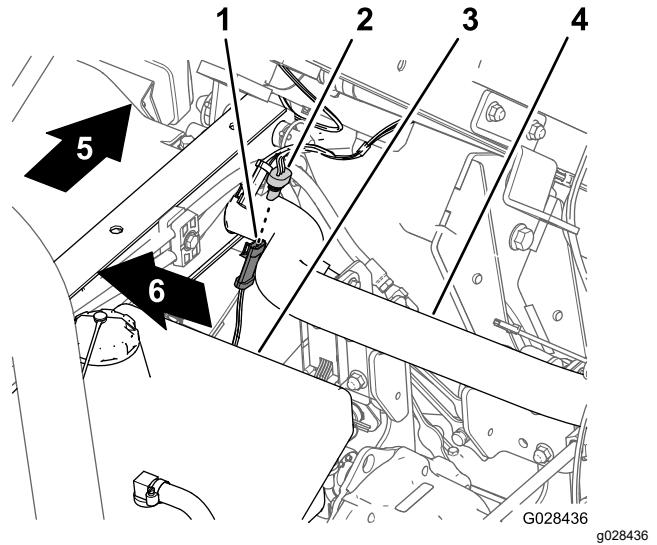

Figure 17
1. At the wire harness for the sprayer, locate the 3-socket connector for the speed sensor circuit (Figure 17).
2. Connect the 3-pin connector of the wire harness of the machine for speed sensor into the 3-socket connector of the sprayer harness for the speed sensor (Figure 17).